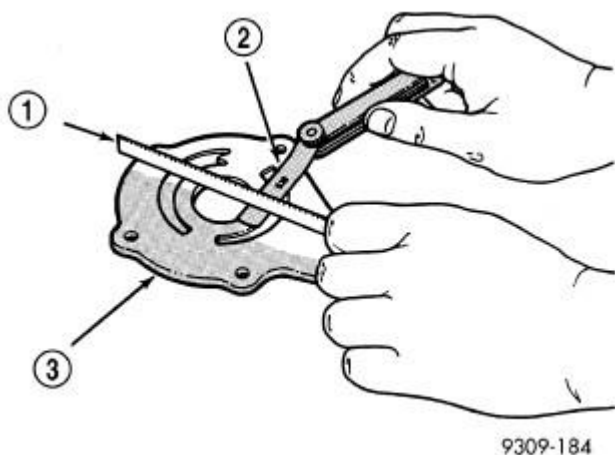

Fig. 432: Checking Oil Pump Cover Flatness
3. Lay a straightedge (1) across the pump cover (3) surface. Refer to **Fig. 432**. If a 0.025 mm (0.001 in.) feeler gauge can be inserted between cover and straight edge, cover should be replaced.